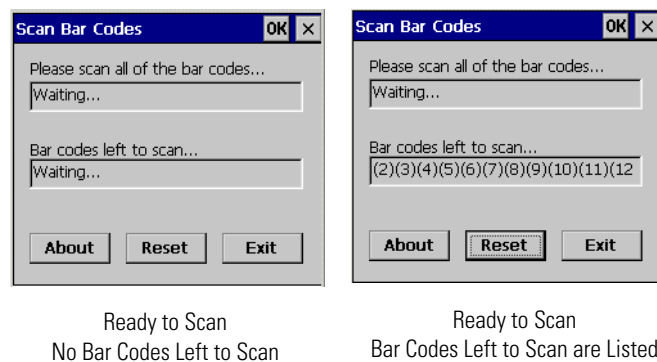

Figure 9-2. Rapid Deployment Window
- b. Multi-part linear bar codes (1-D bar codes) can require scanning several bar codes. Bar codes can be scanned in any order. The text box under *Bar codes left to scan...* shows the remaining bar codes to scan (see Figure 9-2, Bar codes left to scan).